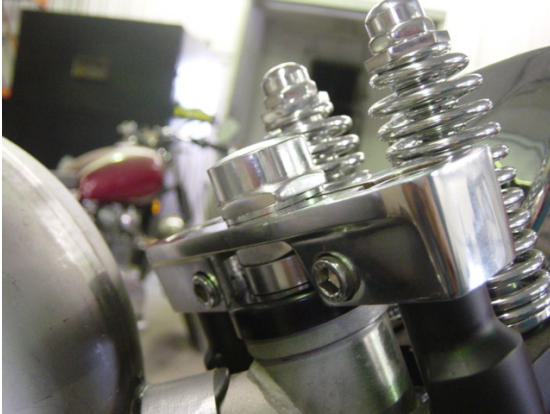
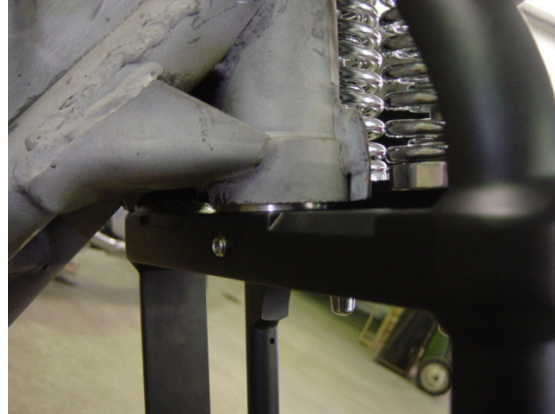

fig.5
fig.6
- 4.) The top triple clamp can be installed at this time along with the top acorn nut. All shoulder edges should seat down fully as shown in figure 5. There will be a clearance gap between the bottom of the neck and triple tree base as shown in figure 6. Both allen bolts can also be tightened at this time to complete the installation of the springer to the bike.